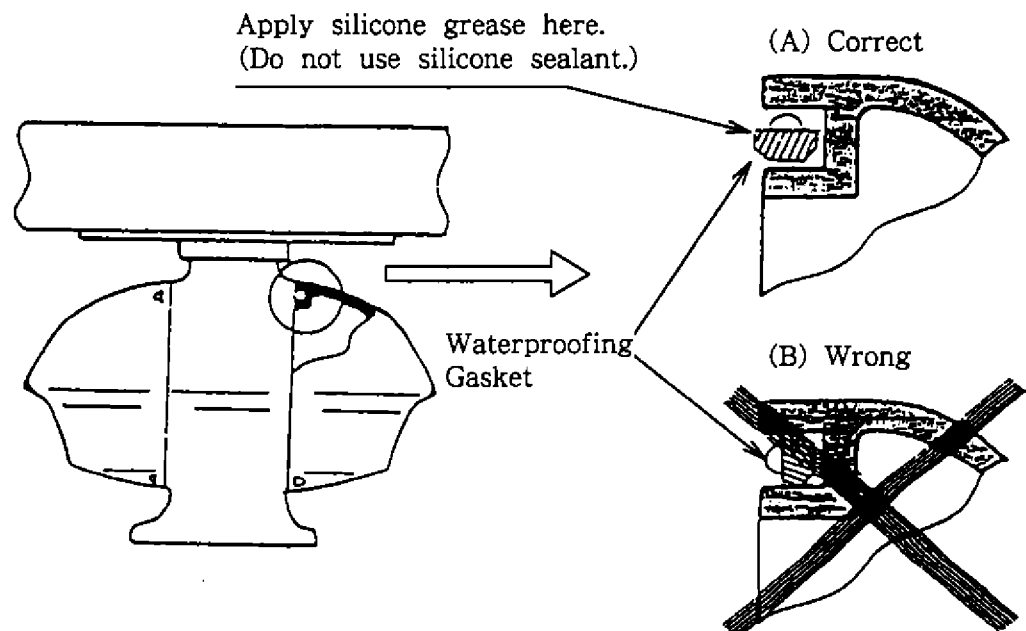

Figure 2-12 Seating of waterproofing gasket
- 10) Confirm that all screws are tightened and all wiring is properly made. Coat waterproofing gasket, bolts and tapping holes of scanner unit with silicone grease. Close the scanner unit cover. See Figure 2-12 to confirm that the waterproofing gasket is properly seated.